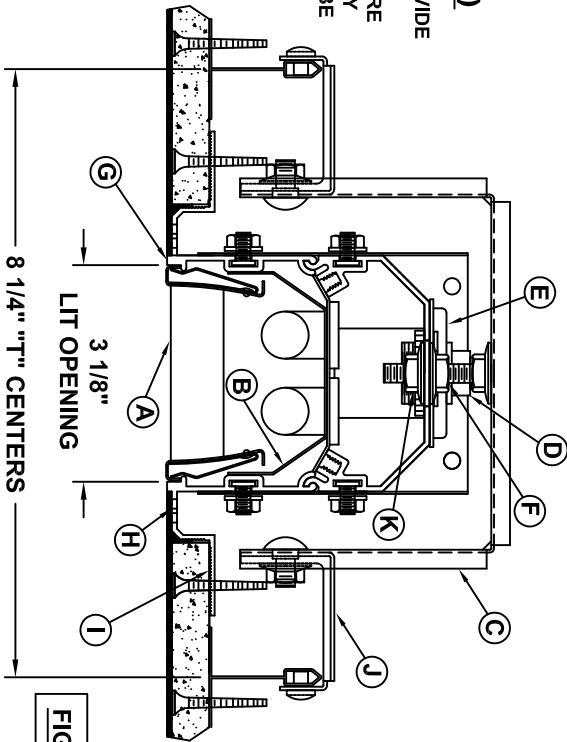

FIG. 1
CEILING CONTRACTOR TO PROVIDE SUPPORT T's OR CARRYING CHANNELS AS DESCRIBED IN STEP 1 ON FRONT PAGE. (REF. FIG. 1 OR 2)
DRYWALL "T" CEILING CONSTRUCTION (FIG 1)
DRYWALL CONTRACTOR TO ATTACH DRYWALL TO PERIMETER FLANGE SERRATED SECTION (I) OF FIXTURE WITH SELF DRILLING DRYWALL SCREWS. (REF. PAGE 1 FIGURES 1 & 2)